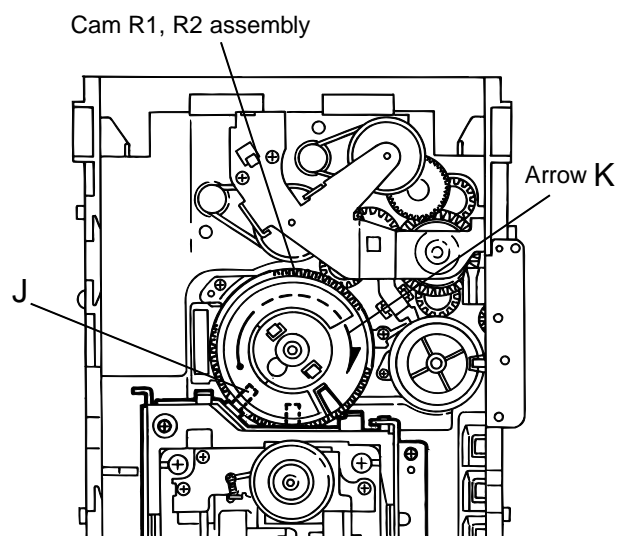

Fig.11
■ Removing the DVD mechanism (See Fig.11, 12)
1. For dismounting only the DVD mechanism without removing the DVD mechanism assembly, align the shaft "J" of the DVD mechanism assembly to the position shown Fig.11 while turning the cam R1 and R2 assembly in the arrow direction "K" .